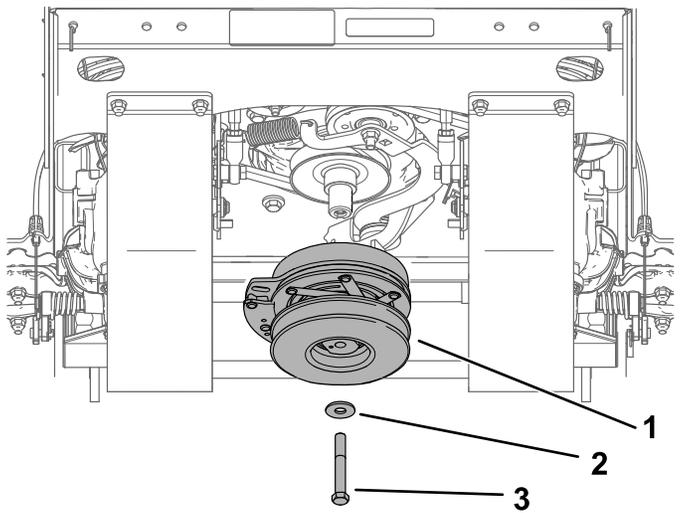

Figure 57
5. Remove the clutch pulley (Figure 57).
- 13. Install the clutch pulley (Figure 57). Torque the bolt to 68 to 81 N·m (50 to 60 ft-lb).
- 14. Install the guard plate (Figure 57).